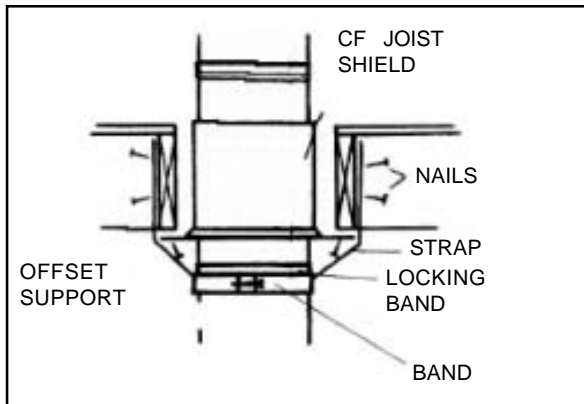

FIGURE 21b
The Offset Support is packaged with each Elbow Kits. The Offset Support can be put below a Joist Shield of the Attic Insulation Shield. The Support Straps are run along the outside of the joists and nailed using eight (8) 1-1/2" nails (2 per side). See Figure 21b.